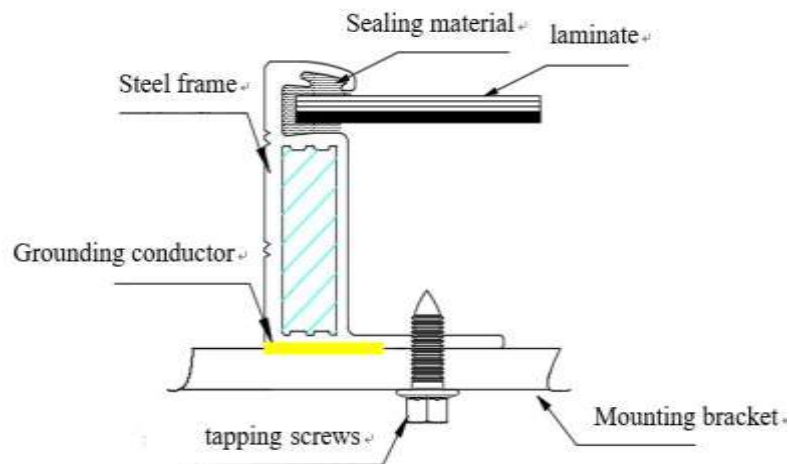

Fig.11.2 ST 4.8 pan head tapping screw grounding
- On a grounding hole with a diameter of  $\phi 4$  mm, use a separate grounding wire and related accessories to connect the frame and connect the grounding wire to the ground. M4 x 12mm ground bolts with M4 nuts, star washers and plain washers are recommended for the aluminum frame, M5 pan head screws or ST 4.8 pan head tapping screws are recommended for high-strength alloy steel frames, see fig.11.2, this ensures that the modules are firmly grounded. You can find the corresponding product drawing in module datasheet to know the detailed number, size and position of the grounding holes. The torque applied to ground fixation is 4N· m~8N ·m.